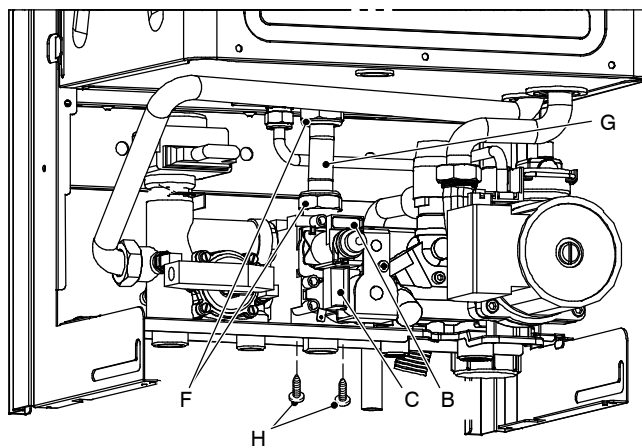

Fig. 48
- 2 Disconnect the connectors *B* (Fig. 48) from the modulating operator and measure the electrical resistance of the coil. Its electrical resistance value must be approx. 80 Ω*.
- 2 Disconnect the electrical connector *C* (Fig. 48).
- 2 Disconnect the connectors *B* and *C* (Fig. 48).